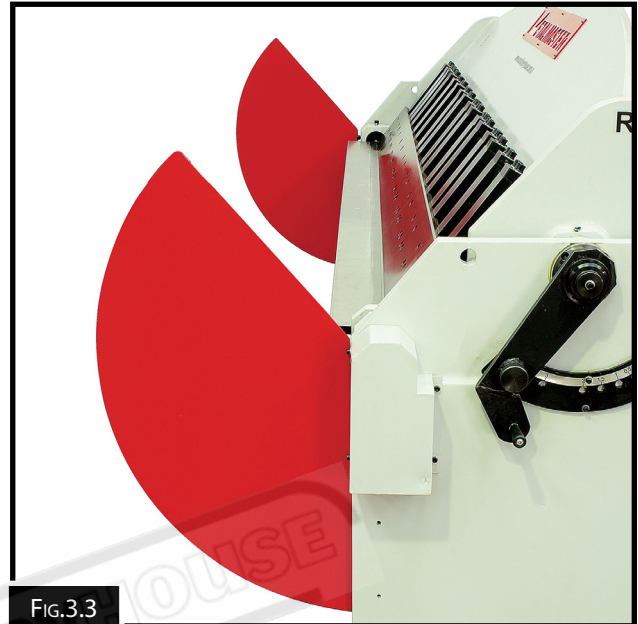

FIG.3.3
- Bolt on the apron safety guards (Fig 3.3)